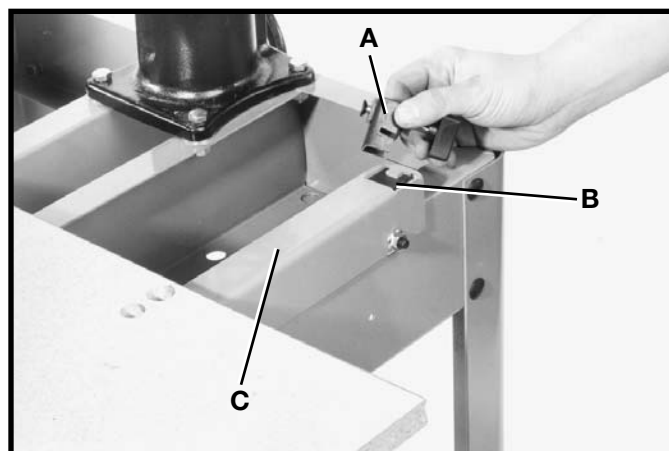
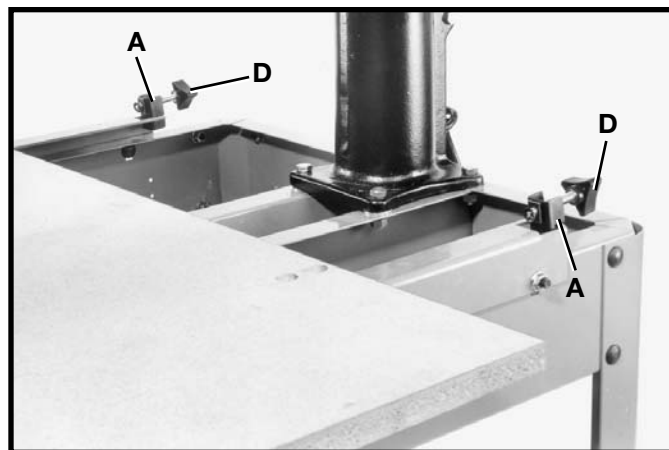

Fig. 29
Fig. 30
1. Locate table board clamps (A) Fig. 29, and insert one clamp into each of the slotted holes (B) located at the rear of each table support bracket (C) as shown in Fig. 30.
2. Adjust clamps (A) Fig. 30, so that the clamps are open entirely as shown, by turning knobs (D).